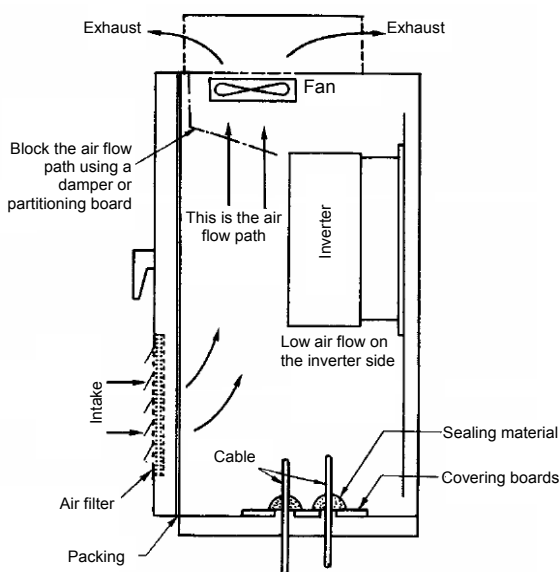
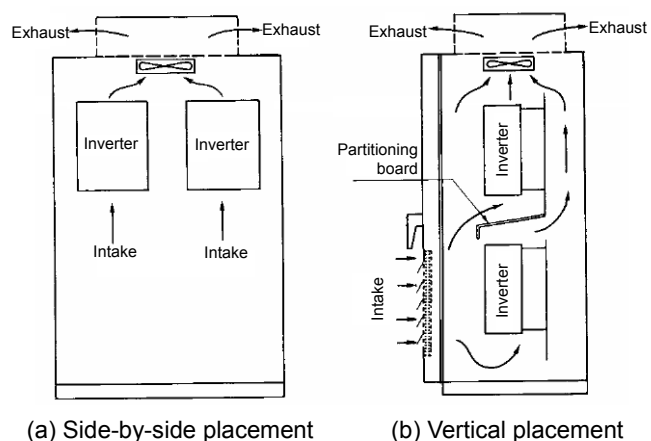

Figure 12.5-4: Example of damper attachment
Figure 12.5-5: Multiple inverters
- (1) Construct such that the parts requiring cooling are in the path of air flow. Air passes through sections with lower resistance. If the ventilation fan and the inverter are positioned as in Figure 12.5-4, most of the fresh air drawn in from the intake opening will pass directly to the exhaust opening without passing through the inverter. In these cases, install dampers or partitioning boards to guide air flow to the heated sections.
- (2) For inverters with cooling fans, be careful of the air flow direction between the ventilation fans and the cabinet cooling fans. When the air flow directions oppose, air flow cancel each other out, reducing cooling air volume.
- (3) When attaching multiple inverters or instruments with high heat generation, position side-by-side as in Figure 12.5-5.